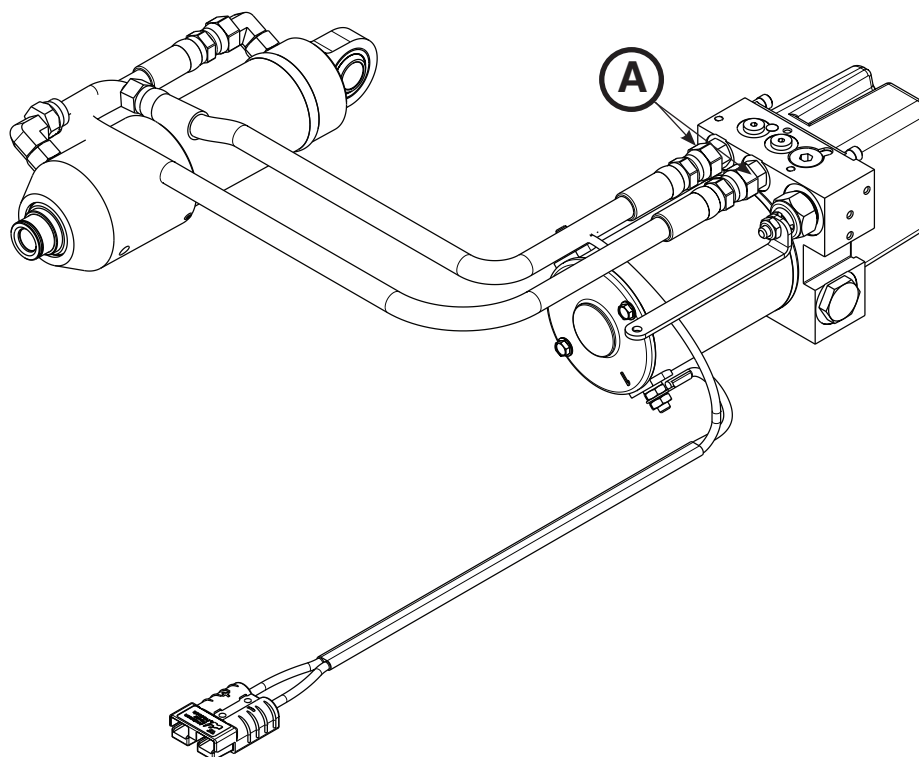

Figure 90
3. Using two 9/16" combination wrenches, loosen (do not remove) the hose end connectors (A) from the manifold to remove both hoses (Figure 90).